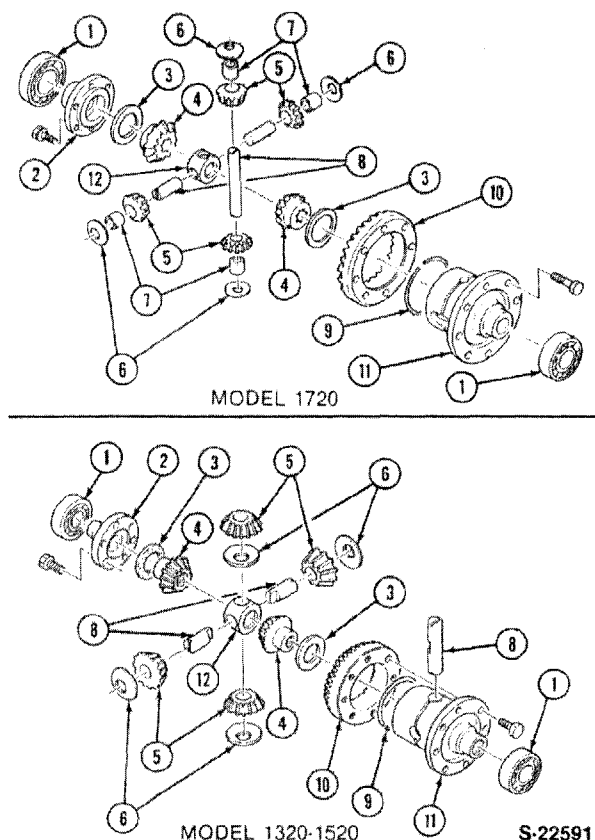

Figure 22
- Remove the bolts from the differential case cover, Figure 22.
- Remove the pinion gear shaft retaining ring (9), Figure 22, and slide the pinion shaft out of the case.
- Remove the differential side gear and thrust washer, Figure 22.